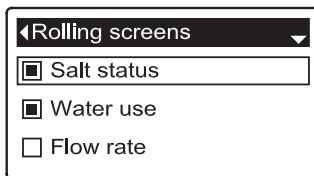

FIG. 46
5. Press the SELECT (O) button to display the Rolling screens menu (See Figure 46).